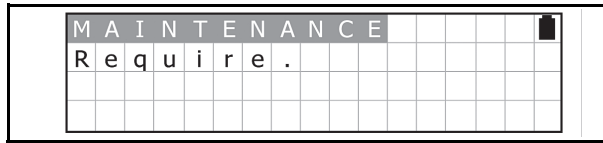
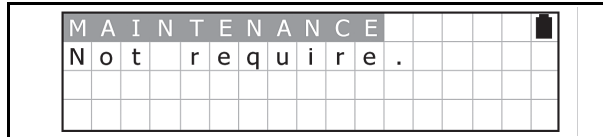

Figure 38 Maintenance Request Screen
Figure 39 Maintenance Non-Request Screen
- Confirm the Maintenance Request (See Figure 38 & Figure 39). Press the OK Key  or the CLR Key  to return to the previous Standby Screen.